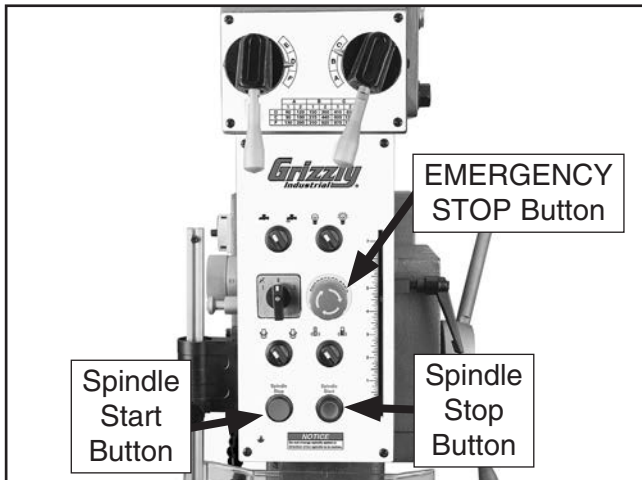

Figure 12. Resetting the switch.
4. Press the EMERGENCY STOP button (Figure 12) in, then twist it clockwise so it pops out. When the button pops out the switch is reset and ready for operation.